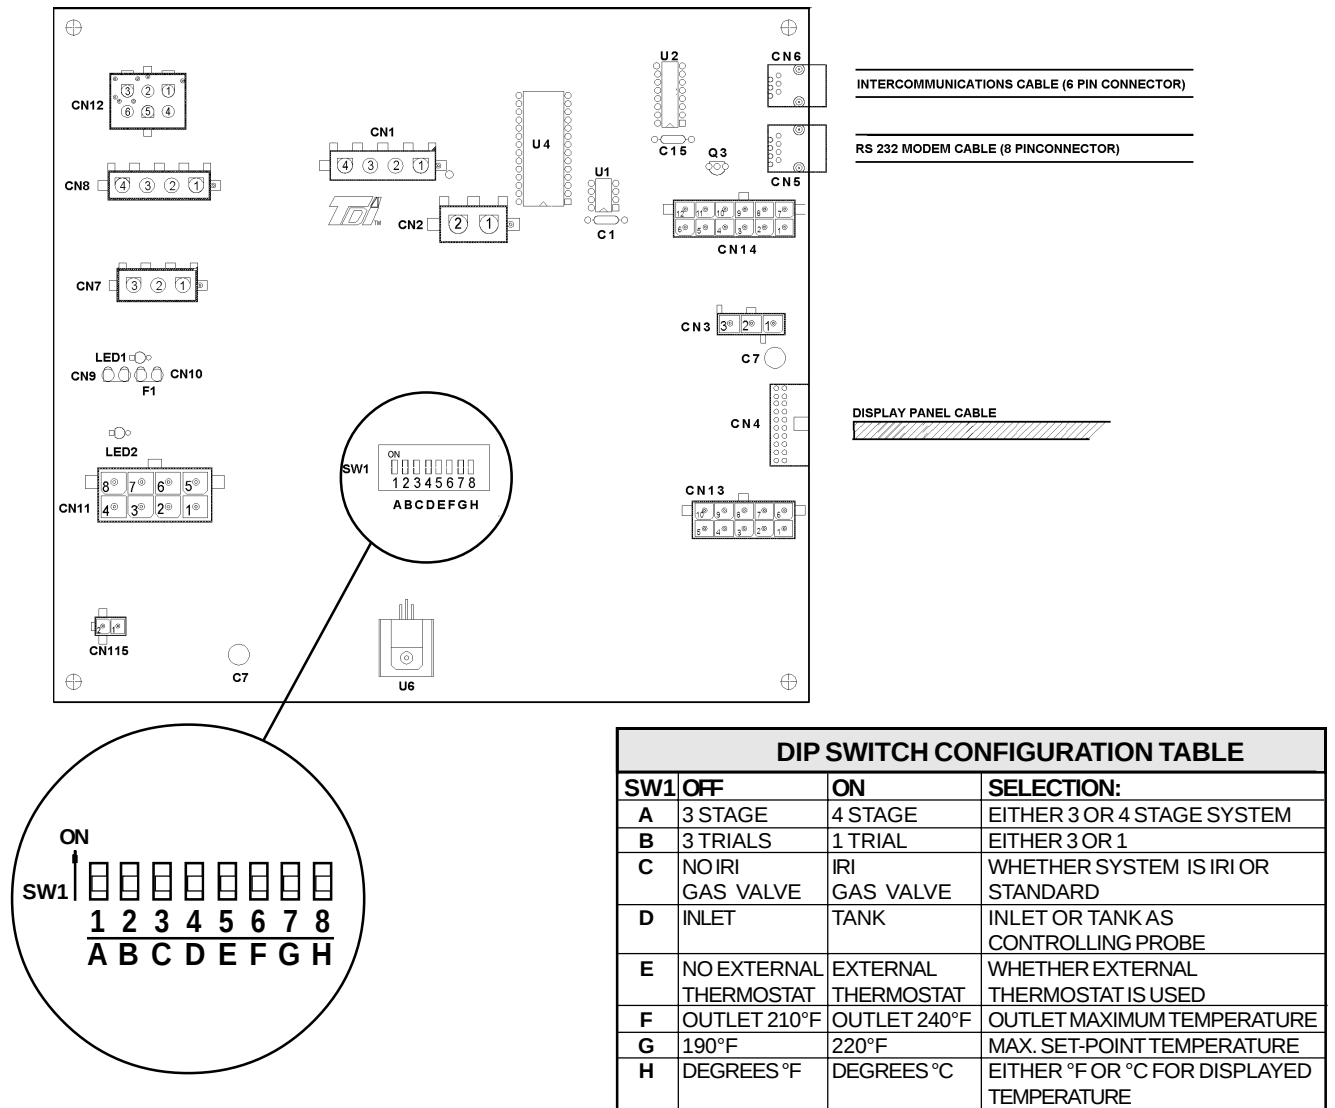

Figure 14. Central Control Board's Dip Switch Configuration and Options
The Central Control Board (CCB) is responsible for staging the Ignition Control Boards (ICB) and monitoring safety limit devices, control of circulation pump, power vent, alarm output and IRI gas valves (only on IRI models). The thermostat also resides on the CCB with inputs available for inlet, outlet and tank temperature probes as well as an input for a remote 24 VAC thermostat. The CCB has a display interface which connects to the Display Board to show system status and failures. The CCB also has a set of DIP switches which allows the user to control several system parameters. (See Figure 14.)
switch "D" on the Central Control Board is placed in the "ON" position, it will show the temperature at the tank probe. (See Figure 14.) The push buttons on the Display Board allow the user to program and view several system parameters described in the following text. The Display Board is connected to the Central Control Board through a 6 conductor cable assembly with modular plug terminations. In addition, an 8 conductor modular jack on the Display Board allows for connecting a remote display board.
*Defaults to tank probe temperature when Dip Switch "D" on Central Control Board is Switched to the "ON" position. (See Figure 14.)
The Outlet Temperature/ECO probe is located on the left side of the header and has two sets of wires embedded in it. The black wires sense the temperature at the probe. Their output is shown on the display screen when the "OUTLET" LED is illuminated. The red wires control the ECO (Emergency Cutoff) which shuts down the unit if the water temperature exceeds 250°F (121°C) and requires a manual reset of the boiler. The outlet probe functions as a automatically resettable high limit and is not considered a controlling probe on the boiler, which means it cannot be set to control the staging of the unit. Depending on the application of the boiler, the probe is set to one of two settings. In GW applications, the maximum Outlet Set Point is 210°F (99°C) and in GB applications it is 240°F (115°C). The Outlet probe Set Point can be adjusted between these two values using Dip Switch "F" on the Central Control Board inside the control box. (See Figure 14.)
The Inlet probe is located on the right side of the Inlet/Outlet header. It has one set of blue wires embedded in it which senses the temperature at the probe. The Inlet Probe is considered a controlling probe and can be used to control the staging of the unit. The inlet probe set-point is fully adjustable between the factory set minimum value of 80°F (25°C) and a user controlled maximum value which will depend on unit's application. In GW applications, the maximum Inlet Set-Point is 190°F (88°C) and in GB application it is 220°F (104°C). The Inlet probe Set-Point can be adjusted between these two maximum values using Dip Switch "G" on the Central Control Board which is located inside the control box. (See Figure 14.)
A 24 VAC thermostat/aquastat can be implemented as a system controller on Genesis units. The connection for such devices is located in the 24 VAC junction box at the rear of the unit. A 24 VAC thermostat/aquastat can only be used as an "On/Off" switch for the unit. The actual controlling of the staging will be through either the inlet or tank probe. To use a 24 VAC system controller, dip switch "E" on the CCB must be switched to the "on" position. See Figure 14.
Note: The user must first choose which probe is to control the staging of the unit. The controlling probe will be either the inlet or tank probe. (If the tank probe is used to regulate loop temperature in hydronic applications (GB Models), make sure it is located on the return side of the closed loop.) Use Dip Switch "D" on the Central Control Board to make this selection. See Figure 14.